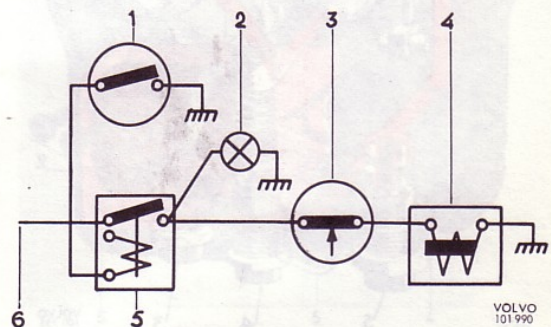

Fig. 3. Electrical circuit diagram
The overdrive is switched on by means of a switch placed underneath the steering wheel or on the instrument panel. This switch closes the circuit via the contact on the gearbox to a solenoid (4) on the overdrive, see Fig. 3.